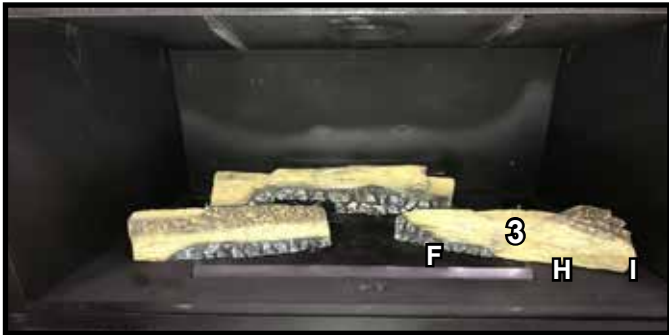

Figure 5. Log #3 Installed
**LOG #3:** With the burnout area of Log #3 facing out, locate the shoulder screws F and H on the basepan in Figure 2 and place log behind them. Slide log right until it contacts shoulder screw I. Log #3 will contact all three shoulder screws, F, H and I. See Figure 5.